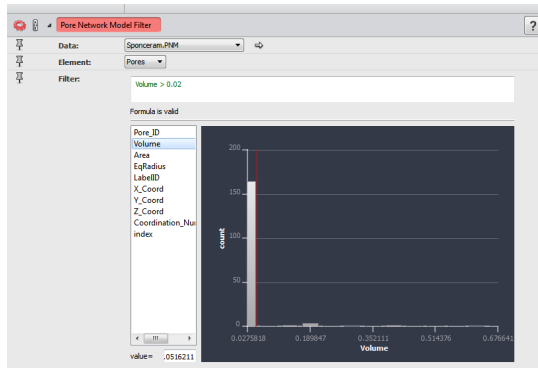

Figure 17.23: Parameters of the Pore Network Model Filter Module
7. Filter the data to keep only pores with volume greater than 0.02. Create a *Pore Network Model Filter* module on the generated PNM and then add $Volume > 0.02$ in the Filter port. You can visualize the filtered network by changing the Data port of the Pore Network Model View and setting it to the new network (see Figures 17.23 and 17.24).